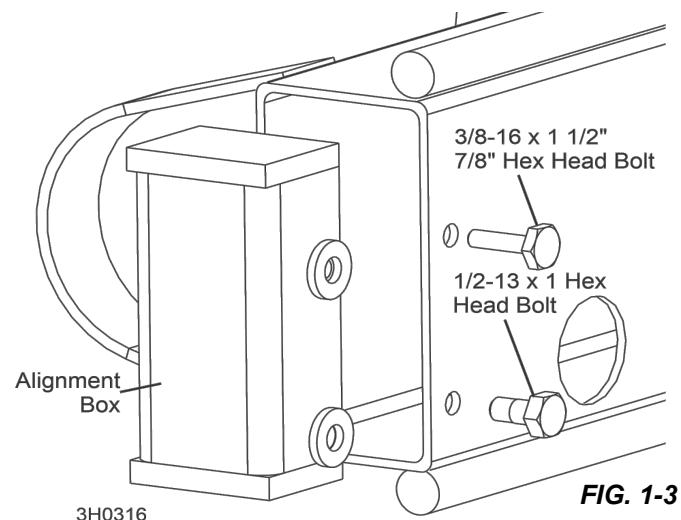

FIG. 1-3
2. Use a 1/2-13 x 1" bolt in the bottom hole and a 3/8-16 x 1 1/2" bolt in the top hole. **See Fig. 1-3.**